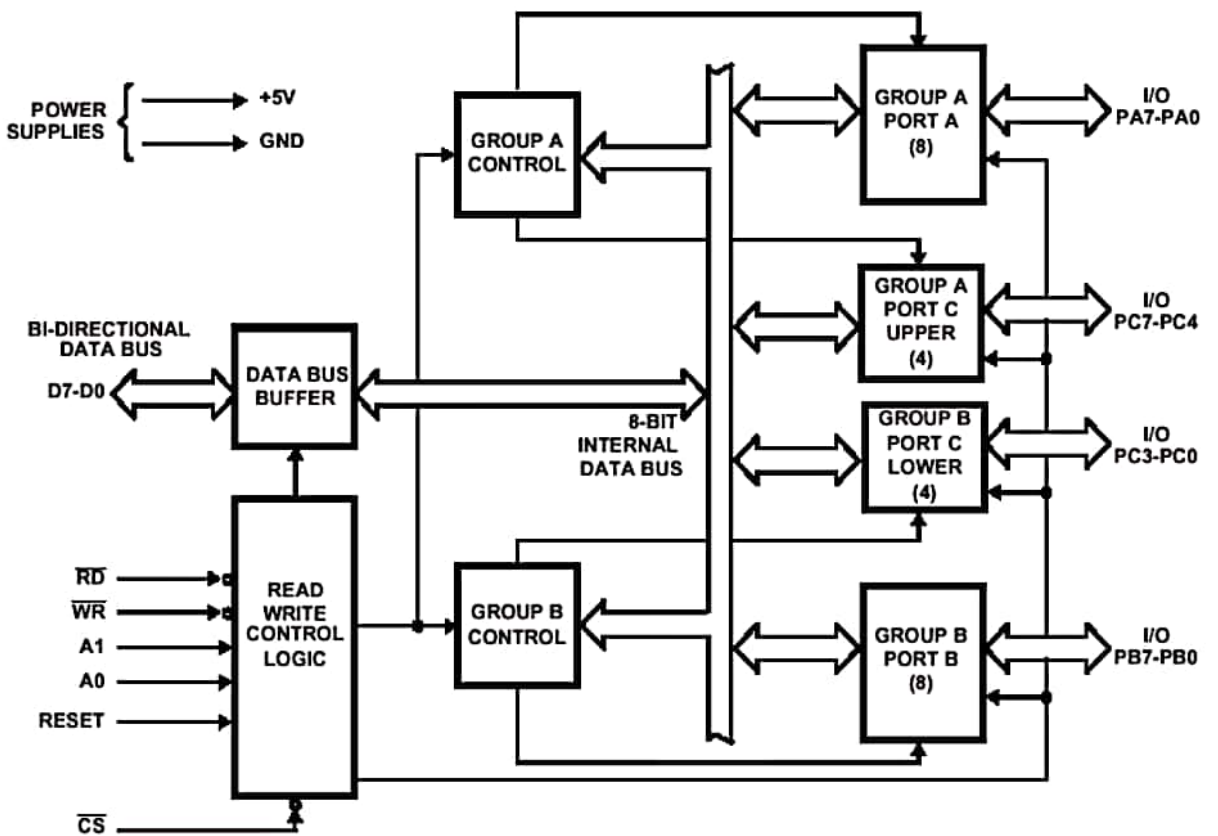
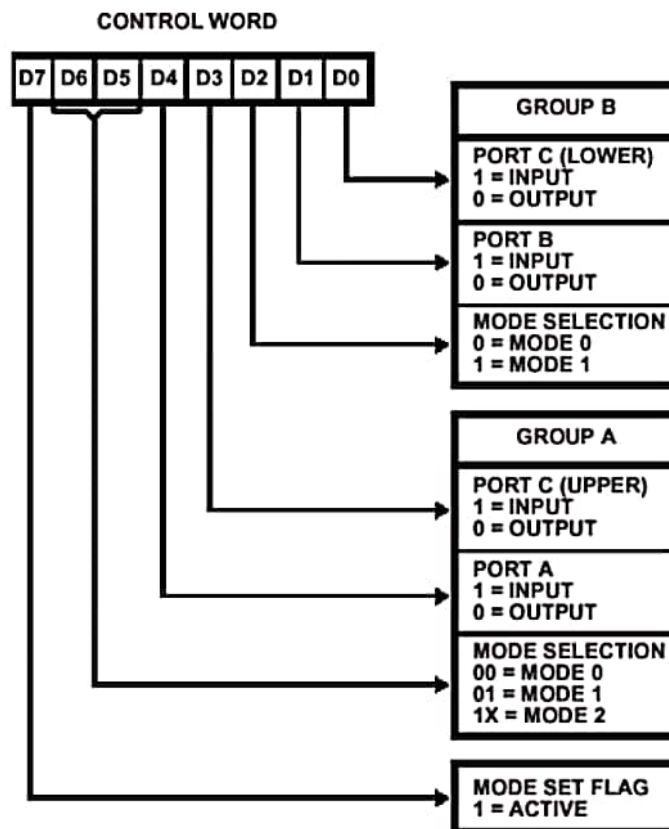

Fig 2. Block diagram of 8255
Fig 3. Control word Register format
The 8255A has 24 I/O pins that can be grouped primarily in two 8-bit parallel ports: A and B with the remaining eight bits as port C. The eight bits of port C can be used as individual bits or be grouped in to 4-bit ports: CUpper (Cu) and CLower (CL) as in Figure 2. The function of these ports is defined by writing a control word in the control register as shown in Figure 3